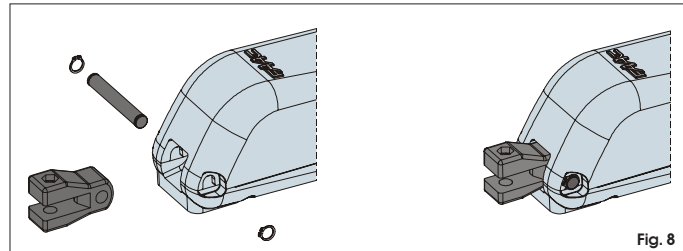

Fig. 8
2) Assemble the rear fitting to the operator as shown in Fig.8.